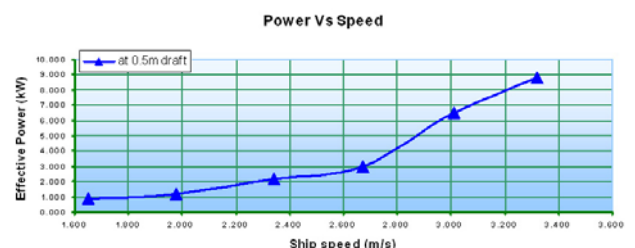

Fig.4. Power variation at 50mm draft
4. The power varies as square of velocity as shown in fig. 4. At low speed (say up to Froude's number 0.28) the major component of drag is frictional drag and as the speed increases wave drag predominates.